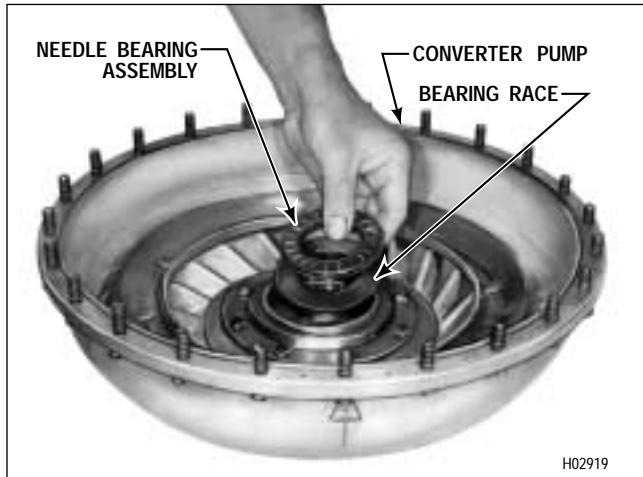

Figure 6-8. Removing (or Installing) Torque Converter Pump Bearing and Race (AT 543)
(10) Remove the needle bearing assembly and bearing race from the converter pump (Figure 6-8).
(11) Flatten the corners of lockstrips 29 (Foldout 7,A). Remove eight bolts 28 and the lockstrips.
(12) Remove hub 30 and gasket 31 from converter pump 35.
(13) Do not remove bolts 36 unless new bolts are needed.